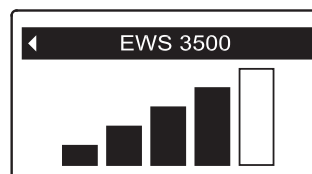

FIG. 106
Begin by checking the signal strength between the conditioner/refiner and the remote. If the signal is weak (2 bars or less on the display shown in Figure 106), move the remote to a different location to try improving the signal strength.
4. Press the SELECT (O) button, and the screen shown in Figure 106 will appear. The more bars that are filled in black, the stronger the signal. The signal strength display updates every 15 seconds.